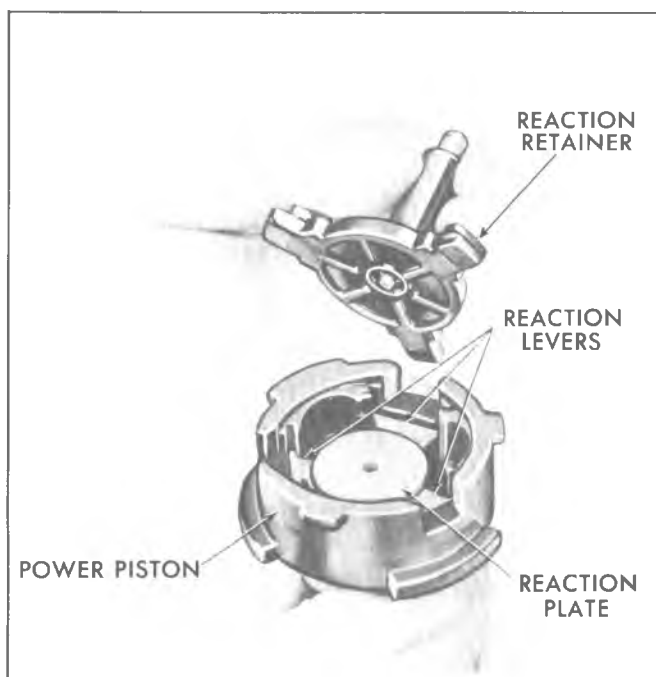

Fig. 5-7C—Removing Reaction Retainer
4. Remove reaction retainer, piston, reaction plate, three (3) reaction levers and air valve spring. Also remove reaction bumper and air valve spring retainer from air valve (fig. 5-7C).